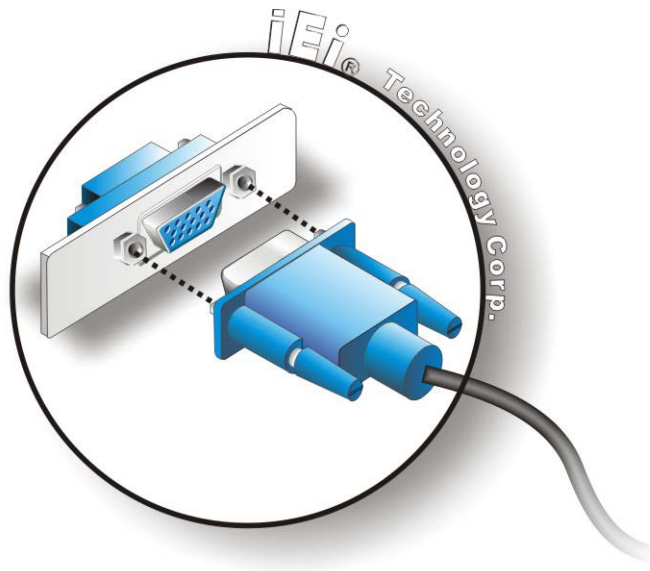

Figure 3-11: VGA Connector
- Step 3: Insert the VGA connector.** Once the connectors are properly aligned with the insert the male connector from the VGA screen into the female connector on the ECN-360A-HM65. See **Figure 3-11**.